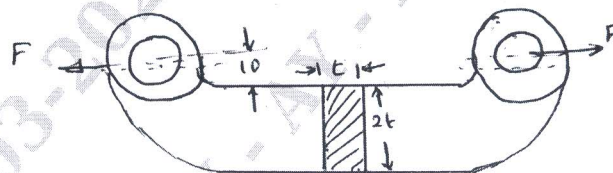

Fig.Q2(b)
- b. An off-set link subjected to a force of 25 kN is shown in Fig.Q2(b). It is made grey Cast Iron, FG300 and factor of safety is 3. Determine the dimension of cross section of the link.